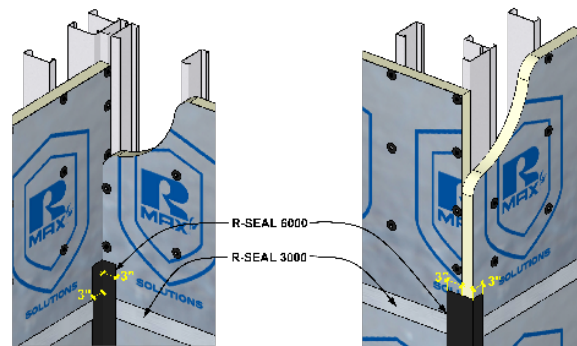

Figure 7
I. Corners: Use R-SEAL 6000 to bridge adjacent insulation boards at corners. Apply at the bottom of the wall and work up extending flashing a minimum of 3" onto each facer (beyond the foam core). **Reference Figure 7.**